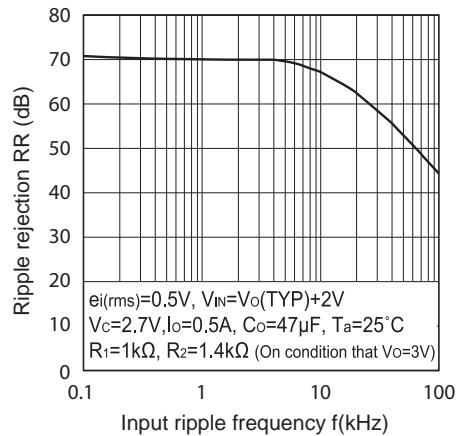

Fig.20 Output Voltage Adjustment Characteristics (Typical Value)
Output voltage is able to set (1.5V to 7V) when resistors R₁, R₂ are attached to ③,④,⑤ terminals. As for the external resistors to set output voltage, refer to the following figure and Fig.20.